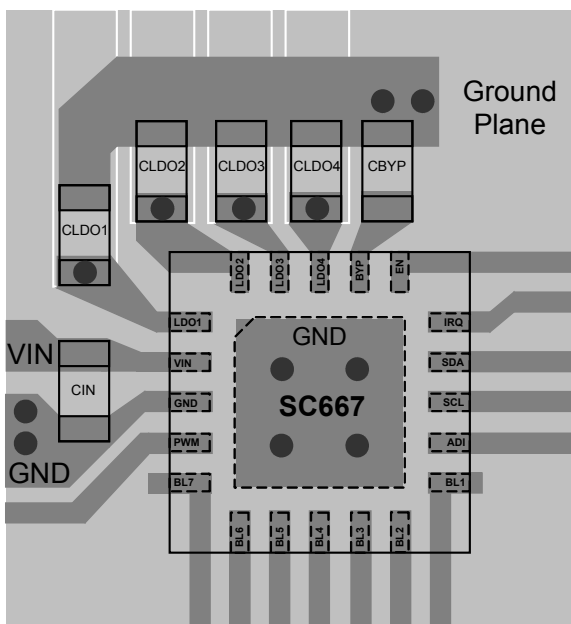

Figure 17 — Recommended PCB Layout
The layout diagram in Figure 17 illustrates a two-layer PCB layout for the SC667 and supporting components. Following fundamental layout rules is critical for achieving the performance specified in the Electrical Characteristics table. The following guidelines are recommended when developing a PCB layout:
- C_{LDO1} , C_{LDO2} , C_{LDO3} , C_{LDO4} , and C_{BYP} should be grounded together. Connect these capacitors to the ground plane at one point near the SC667 as shown in Figure 17.